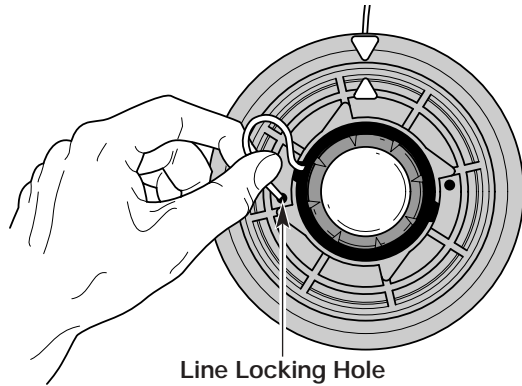

Fig. 16
5. Insert the line into the locking hole. Do not push the line more than a 1/2 inch (12.7 mm) into the line locking hole. The line will form a small loop (Fig. 16) when it is inserted correctly.